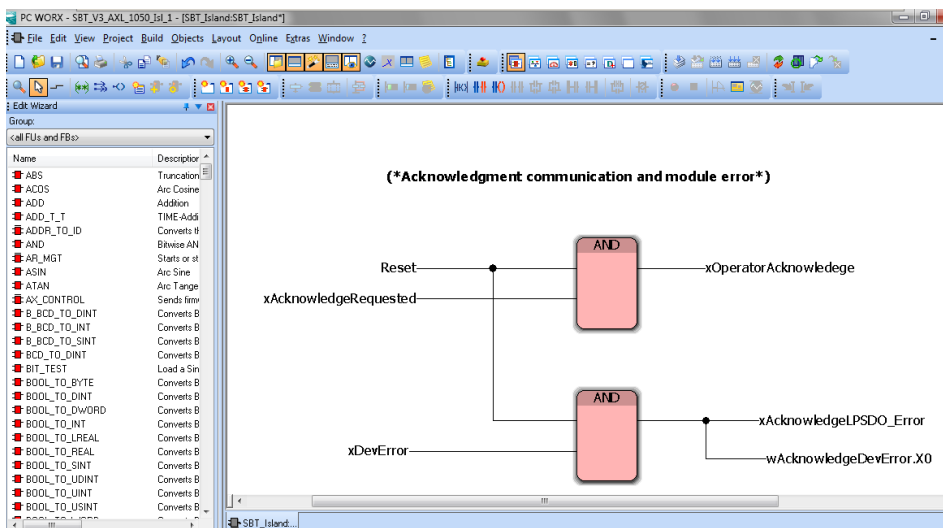

Figure 3-41 Program for error acknowledgment
- Create the program shown in Figure 3-41 in order to acknowledge communication and module errors for the AXL F LPSDO8/3 1F and AXL F SSD18/4 1F modules.